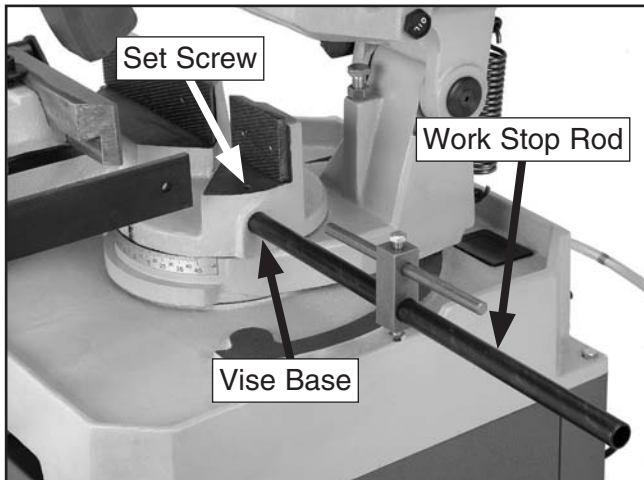

Figure 16. Work stop rod.
- Attach the work stop rod by sliding it into the hole in the side of the vise base and using the set screw to secure it in place, as shown in **Figure 16**.